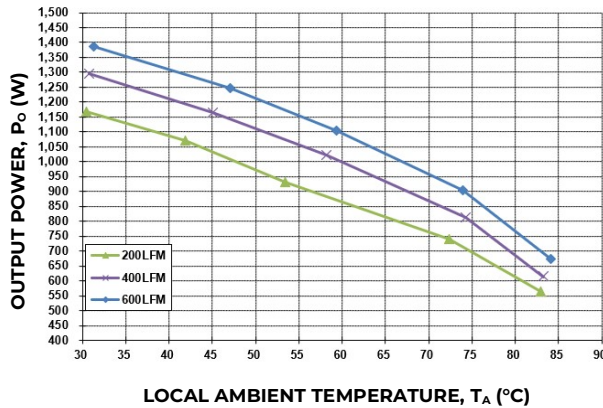

Figure 17. Output Power Derating for the Base Plate QBDS128A0B1-H; Airflow Direction for Vout to Vin(Worst) orientation; Vin = 50V.
Increased airflow over the module enhances the heat transfer via convection. The thermal derating of figure 17– 22 shows the maximum output current that can be delivered by each module in the indicated orientation without exceeding the maximum TH1 and TH2 temperature versus local ambient temperature (TA) for several air flow conditions.